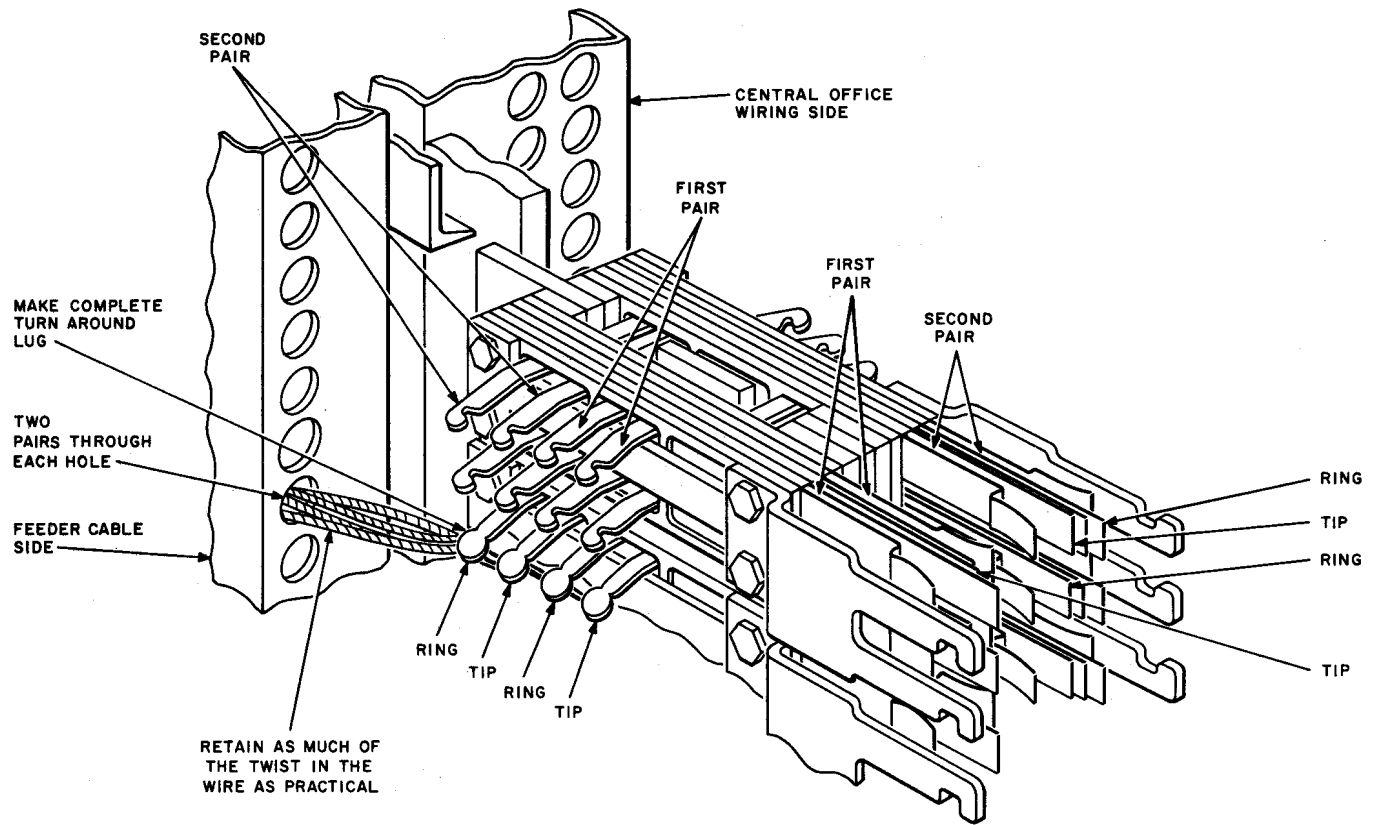

Fig. 9—444-Type Jack (301-Type Connector) Mounting and Terminating
2.06 The 444-type jack (301-type connector) is used to terminate unexposed cable conductors (Fig. 9) and does not provide protection.